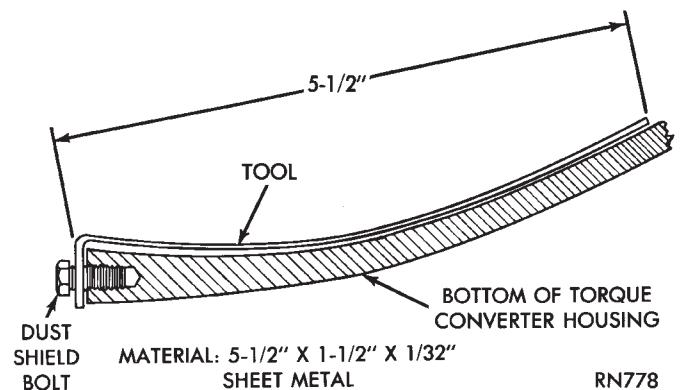
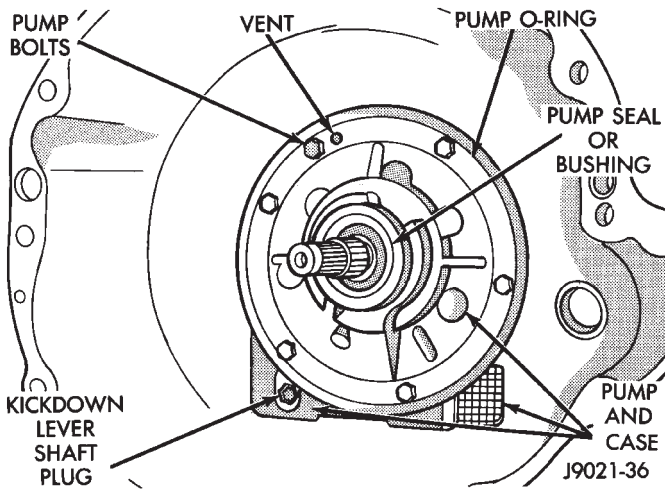

Fig. 10 Leak Test Probe
Fig. 11 Pump Area Inspection Points
(4) Fabricate a test probe (Fig. 10). Then attach the probe to the converter housing with one of the dust shield bolts (Fig. 10).
(5) Have a helper run the engine at 2500 rpm (with the transmission in Neutral) for two minutes; then stop the engine.
(6) Inspect the test probe and converter housing. If a leak is evident, note the color of the fluid. Transmission fluid is red. Engine oil ranges in color from brown to green, or to black when the oil is dirty.
(7) If the probe upper surface is dry, the converter and seal are not at fault. A path of fluid across the probe upper surface indicates a converter or seal leak. Fluid leaking **under** the probe is coming from the pump housing area (Fig. 11).
(8) Fluid leaking under the probe could be from the: pump seal and/or bushing, pump vent, kickdown lever shaft access plug, pump bolts, or porous spots in the pump body or transmission case (Fig. 11).
(9) If porous spots in the transmission case or pump body are the suspected leak source, pressurize the transmission as described in Leak Testing With Air Pressure.